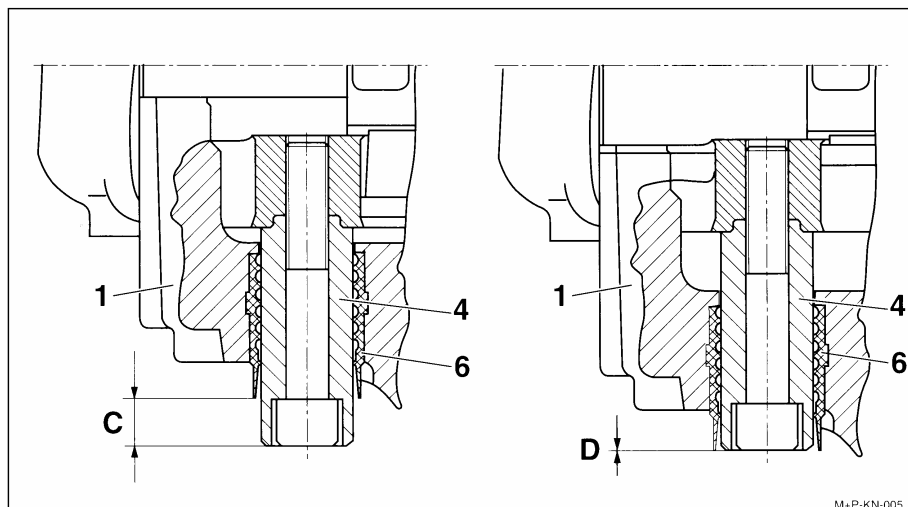

FIGURE 13: BRAKE PAD CHECK
Brake pads have to be checked on a regular basis depending on the vehicle operation. The remaining thickness of the pads should never be less than 3/32 inch (2 mm). To check pad condition without removing the wheel, verify the position of guide bushing (6) relative to guide sleeve (4) (fig. 13). When guide sleeve is in alignment with guide bushing, brake pad thickness has to be checked more precisely with wheel removed. When replacing the brake pads, all four pads on an axle have to be changed at the same time. There is no inner or outer pad, since all pads are the same. Worn pads should be replaced in the same position.